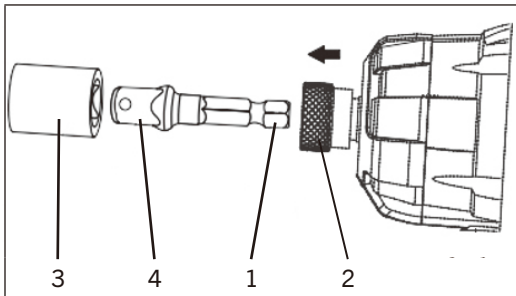

FIG. 12
1. Insert the hex end of the socket adaptor (1) into the hex drive (2) (Fig. 12).
3. Push the square end of the socket (3) onto the matching square end of the adaptor (4).